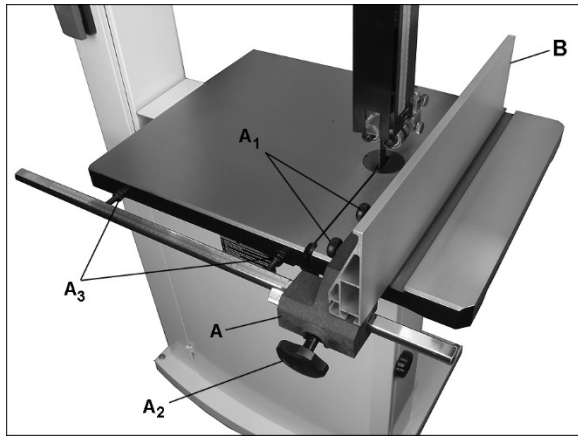

Figure 5-7
Refer to Figure 5-7.
1. Slide fence body (A, Figure 5-7) onto guide rail and move fence body to right of blade.
2. Install resaw fence (B) and tighten with two knobs (A₁).